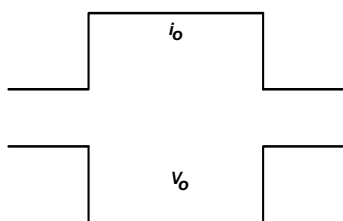
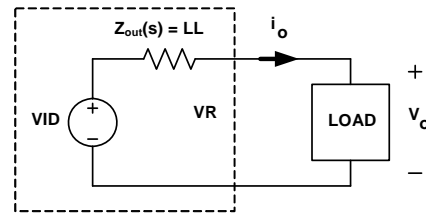

FIGURE 19. DESIRED LOAD TRANSIENT RESPONSE WAVEFORMS
FIGURE 25. VOLTAGE REGULATOR EQUIVALENT CIRCUIT
With proper compensator design, Figure 19 shows the expected load transient response waveforms. When the load current  $i_o$  has a square change, the output voltage  $V_o$  also has a square response.
Figure 19 shows the desired load transient response waveforms while Figure 25 shows the equivalent circuit of a voltage regulator (VR) with the droop function. A VR is equivalent to a voltage source (VID) and output impedance  $Z_{\text{out}}(s)$ . If  $Z_{\text{out}}(s)$  is equal to the load line slope LL, i.e. constant output impedance, in the entire frequency range,  $V_o$  will have square response when  $I_o$  has a square change.